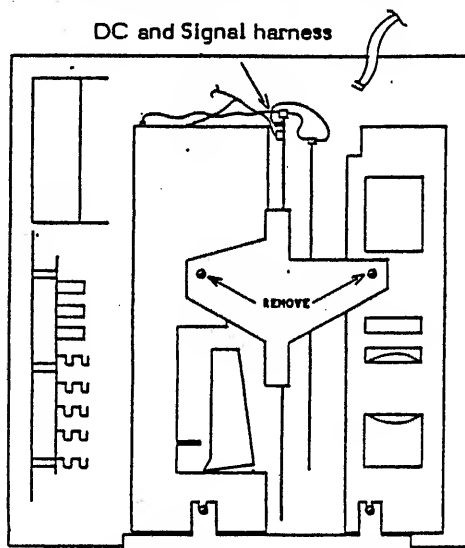

Fig. 3-25 FIXED DRIVE ASSEMBLY
2. Remove (2) screws supporting Controller PWA support bracket to drives. (fig. 3-25)
2. Fasten Controller PWA to support bracket with (5) screws.
3. Lower PWA and bracket into the slot between floppy drive and fixed drive.(fig.3-25)
4. Attach DC and signal harnesses to 3.5.4 PWA.(fig.3-25)